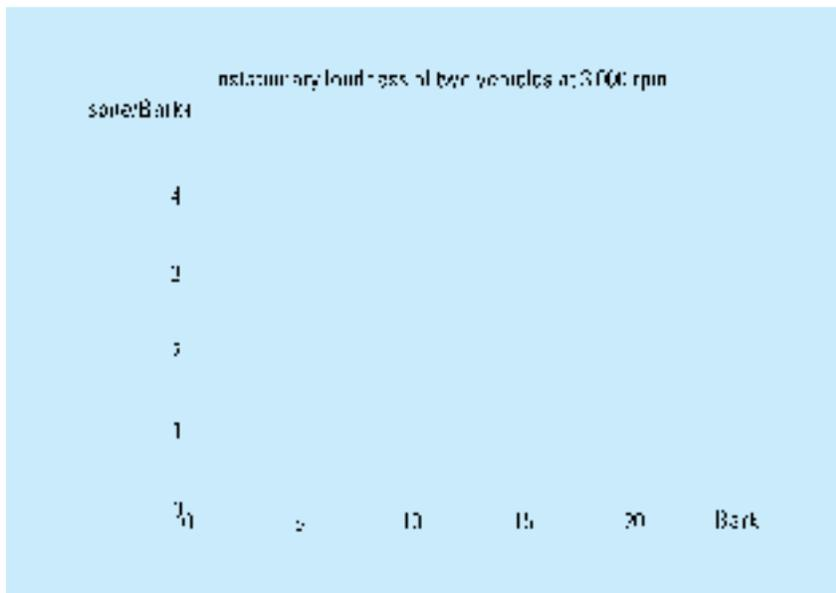

Figure 1
**Instationary loudness** (see figure 1) is a measure of the magnitude of noise volume and also reflects the time and spectral masking effects characteristic of the human ear. It is measured in *sones* (from the Latin word *sonare*, "to sound"). A *sones* is referenced to a 1 kHz tone at 40 dBSPL. A noise that appears to be twice as loud as this reference would measure 2 sones.